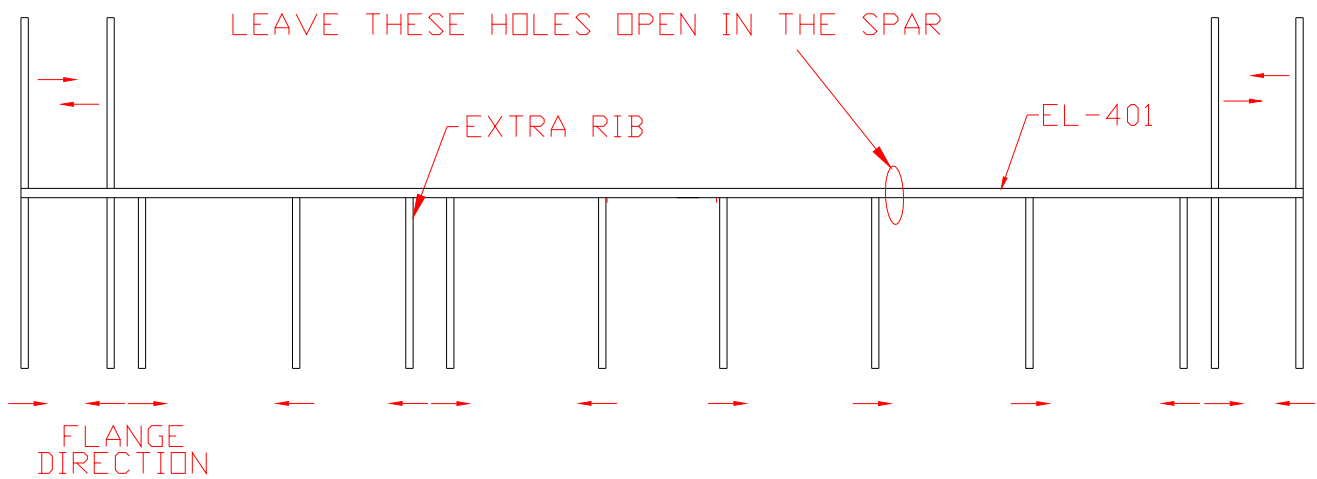

Figure 3.2.1
- 1) Cleco the Elev/Rud Ribs and Tip Ribs to the Elevator Spar as in Figure 3.2.1. **NOTE:** The ribs will need to be straightened, this can be done by using fluting pliers or a shrinker. Temporarily place the Elevator Skin on the spar assembly. Mark the rivet locations on the Elev/Rud Ribs and carefully remove the skin. When you straighten the ribs, flute in between the rivet locations.